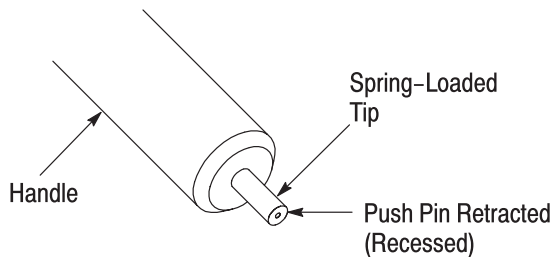

Figure 4
1. Turn the adjustment cap *counterclockwise* until the push pin is retracted (recessed) into the end of the spring-loaded tip. Refer to Figure 4.